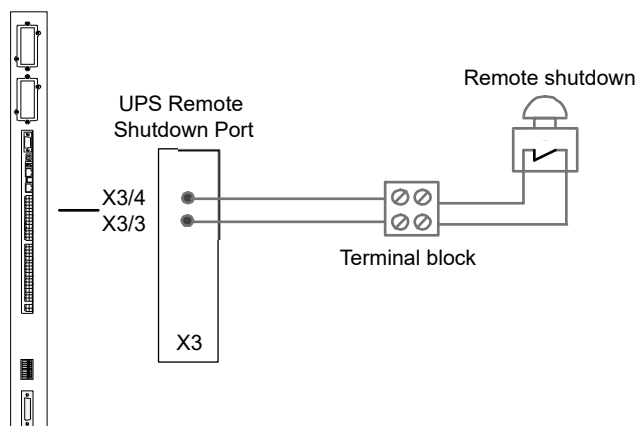

Figure 9.4 Remote emergency stop cabling
The remote shut down facility comprises a normally-closed circuit connected between terminal X3/3 and X3/4 on the customer interface card located on the Kohler PW9500DPA front frame (see Figure 9.4).
2. Connect the cable as shown in Figure 9.4.